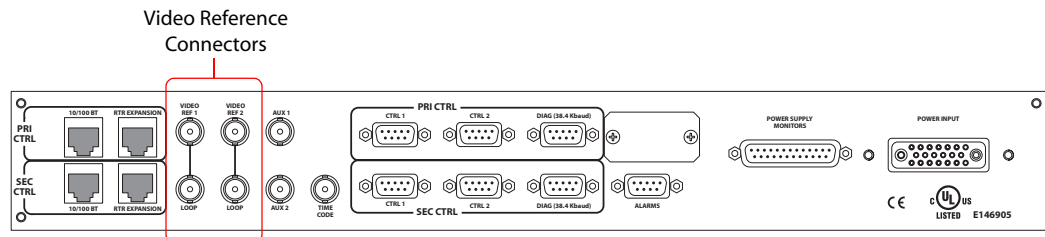

Figure 3-18. Video Reference Connections and BNC Connector (Rear View)
- 1 Locate the video reference connections on the rear of the router, as shown in Figure 3-18. The video reference connections are labeled ‘VIDEO REF1’ and ‘VIDEO REF2’.